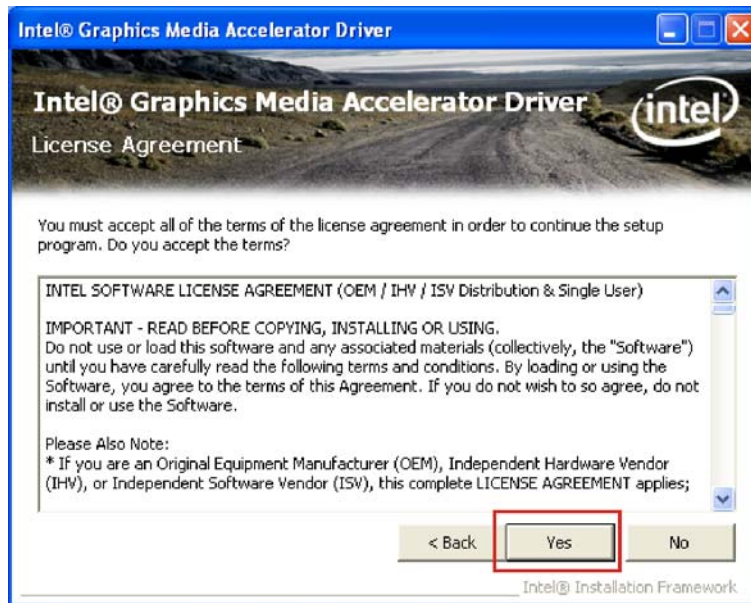

Figure 7-12: VGA Driver License Agreement
Step 7: Click **NEXT** and a license agreement appears (**Figure 7-12**).